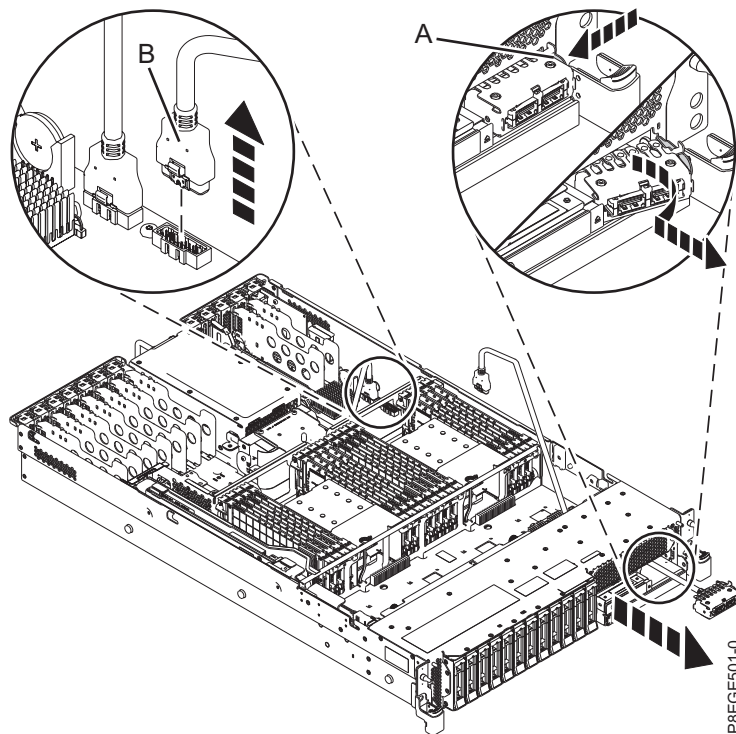

Figure 3. Unplugging the USB cable from the system backplane
5. Unplug the front USB cable from the system backplane. See (B) in Figure 3.
6. Unlatch the USB cable housing from the front of the system. Push the right side of the housing (A) and pivot it to the left as you pull it out towards you as shown in Figure 3.